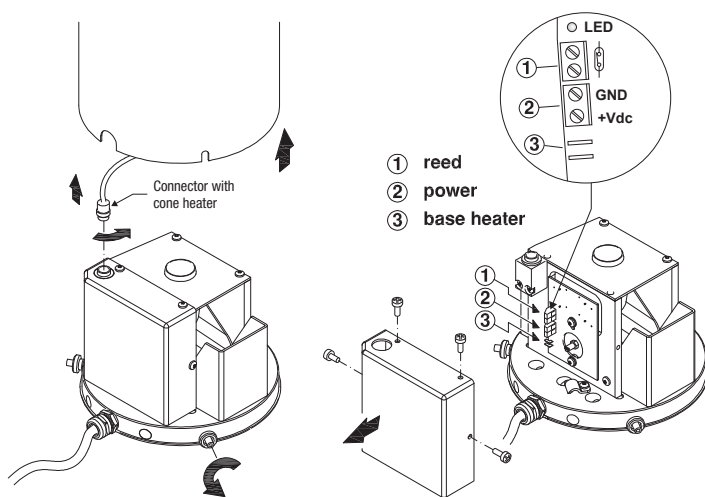

Fig. 3 – Electrical connections (version with heating option)
**Note:** a heating resistor is fitted around the cone vertex in the **HD2013R** version. To disconnect the power leads, the terminal block's protection cover must be removed and the connector plugged into the heater's leads coming from the cone needs disconnecting (see fig. 3).
For the version without heating use a 2-wire cable with 0.5 mm2 minimum wires section, for the version with heating use a 4-wire cable with 2.5 mm2 minimum wires section. Use a shielded cable over long distances. Slide the cable through the cable gland and fasten it with the cable fastener located near the entry hole at the base of the rain gauge. Unscrew the terminal block protection cover and perform the connections as shown in figure 3. **The rain gauge output, indicated at point 1 in the figure, must be connected to the input of the HD2013-DB rain gauge data logger (please see the details in the manual of the data logger) or to a pulse counter or to a data logger.**